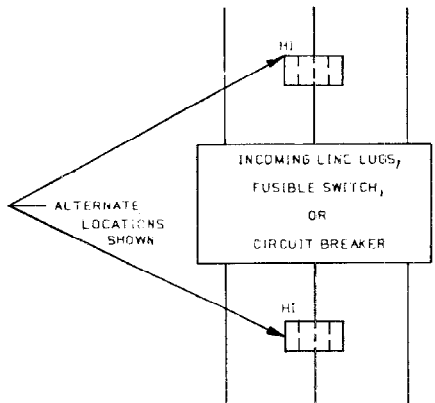
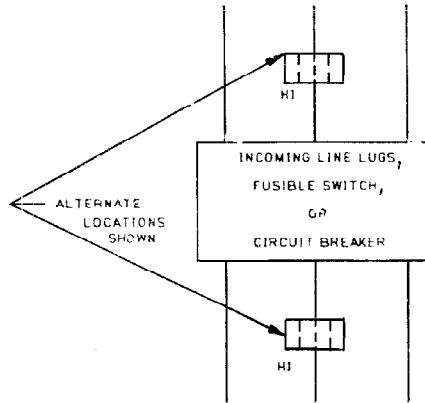

FIGURE 1
FIGURE 2
1. Slip Donut Current Transformer over the end of the conductor(s) of the phase to be monitored observing the polarity as noted in Fig. 1 or Fig. 2.